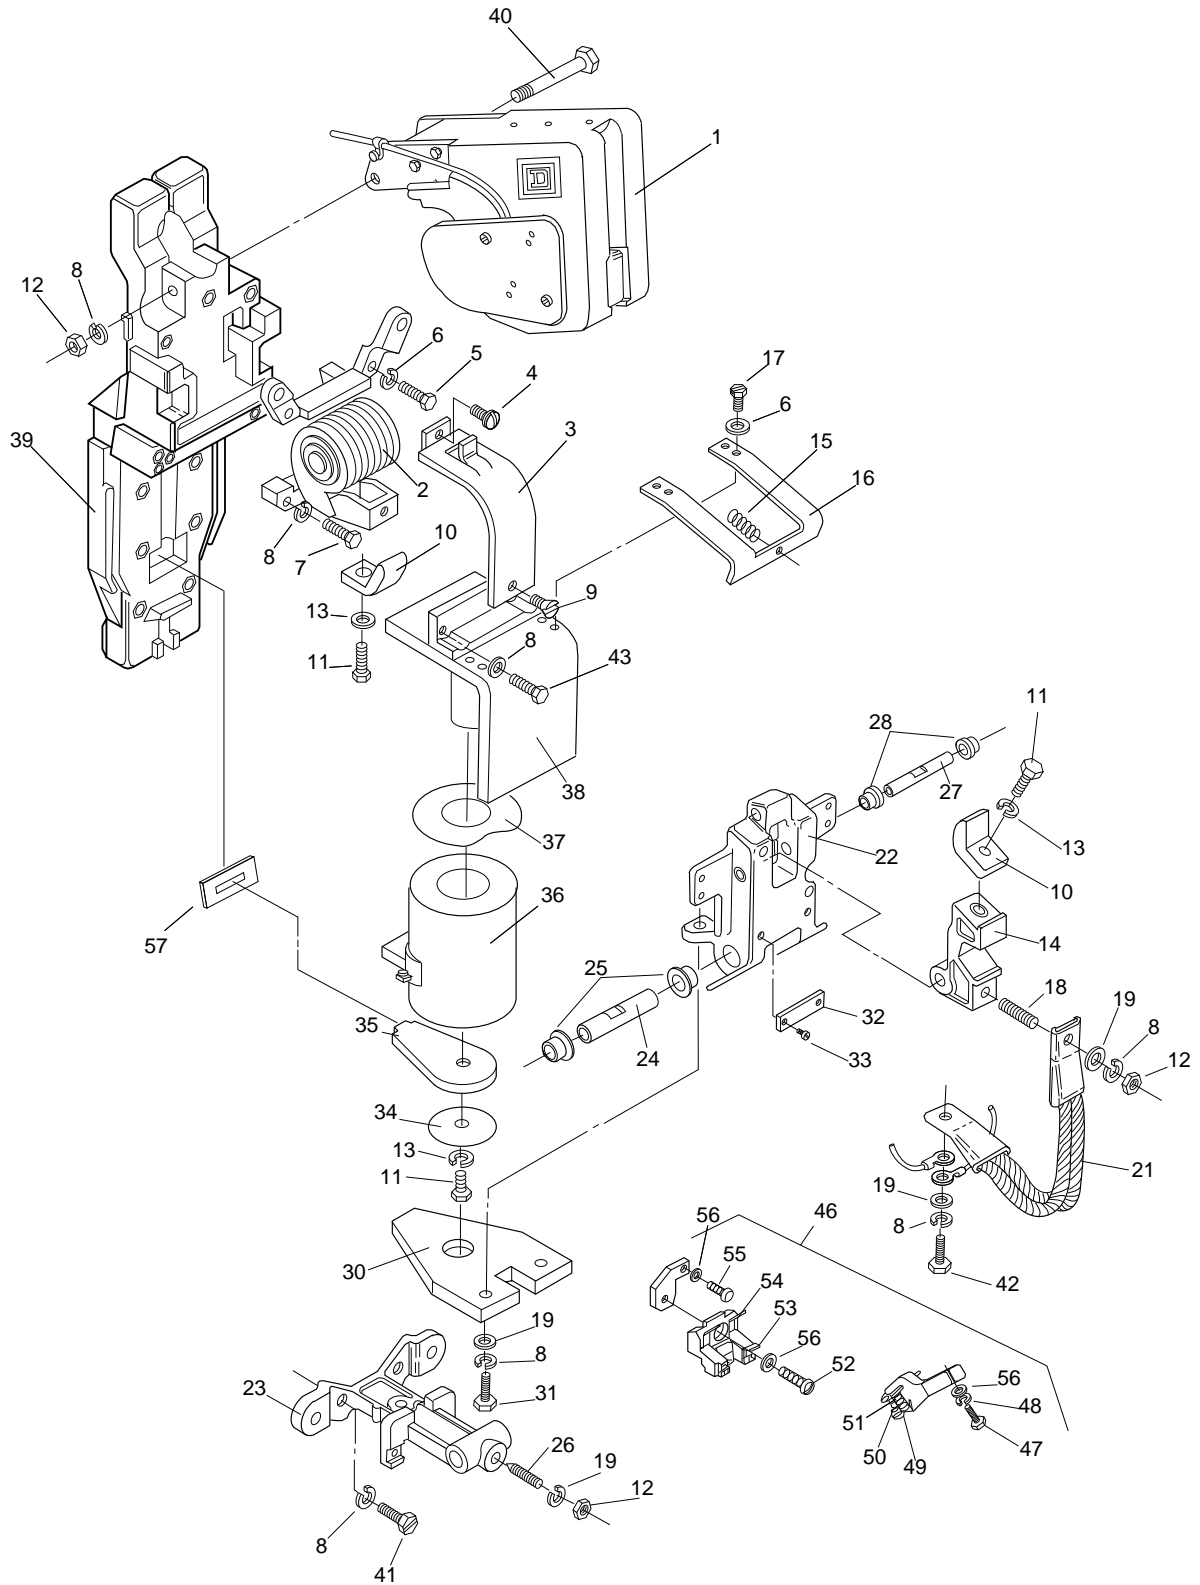

Figure 6: Contactor Assembly Drawing
2. Remove the movable contact assembly by removing the slotted screws (item 47), lock washers (item 48) and washers (item 56).
3. Remove the stationary contact assembly by removing the slotted screw (item 55).
4. Install new stationary contact assembly by replacing the stationary contact assembly slotted screw. Ensure the stationary contact assembly is positioned as shown in Figure 6 on page 11.
5. Install new movable contact assembly by replacing the washers, lock washers and slotted screws. Ensure the movable contact assembly is positioned as shown in Figure 6 on page 11.
When ordering parts, specify quantity, part number and description of part, giving complete nameplate data of the device. To identify parts, see Figure 6 on page 11.
Figure 6 identifies items in the parts list and in the maintenance and adjustment procedures.